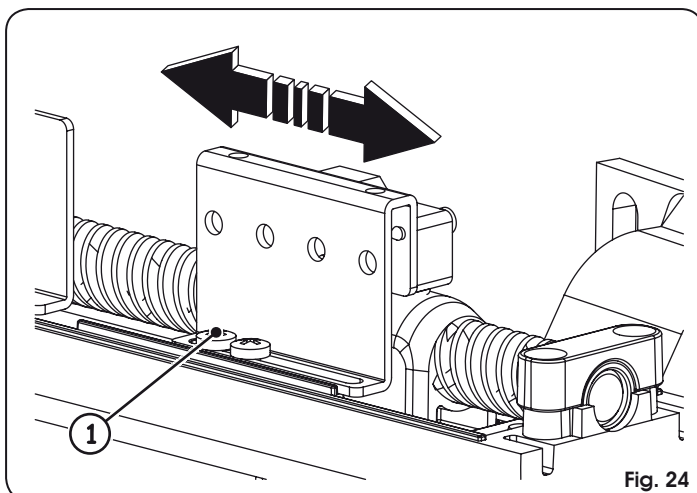

Fig. 24
3. Loosen the fastening screws of the limit switch to adjust, Fig. 24 ref. ①.